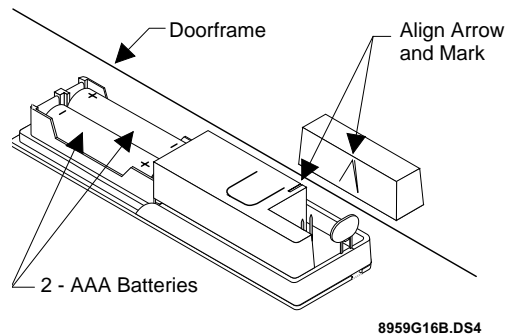

Figure 2. Aligning the Door/Window Sensor and Magnet
- Make sure the alignment arrow on the magnet points to the alignment mark on the sensor (see Figure 2).